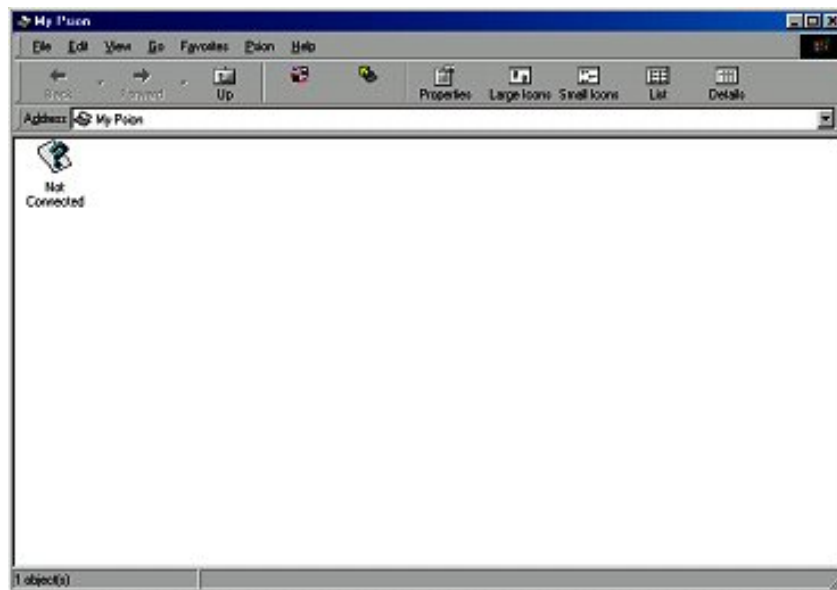

Fig. B1. Startup screen for My Psion
8. Once the PsiWin software is installed an icon will be shown on the desktop with the name “My Psion” (see icon to the right). Double click the icon and the window shown below will appear. Fig. B1